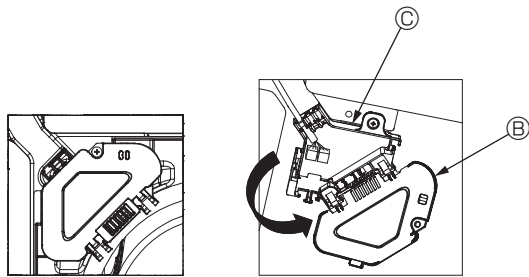

Fig. 5-5
- ③ Remove the one screw securing the connector box cover, and then open the cover. (Fig. 5-5)
- ④ Place the junction wire connector in the connector box.
- ⑤ Install the wire cover and connector box cover.